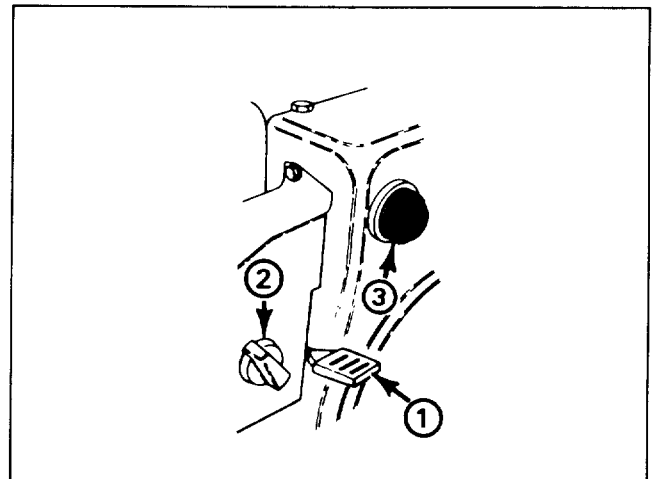

Figure 13
**Throttle** (Fig. 13)—Move throttle upward to increase the engine speed.
**Choke** (Fig. 13)—Rotate choke to ON position to start a cold engine. As engine warms up, rotate choke gradually to OFF.
**Primer** (Fig. 13)—Press primer to pump a small amount of gasoline into engine for improved cold weather starting.
- A. Remove (2) mounting screws securing heater box in place. Grasp choke knob (Fig. 13) and pull it off mounting pin.
4. Move choke to ON choke position (Fig. 13).
6. Cover hole in center of primer with thumb and push primer slowly three times (Fig. 13). **DO NOT PRIME IF THE ENGINE HAS BEEN RUNNING AND IS HOT.**
8. After engine starts, immediately move choke (Fig. 13) to 3/4 position. As engine warms up, move choke to 1/2 position; then to OFF position. If engine falters, return choke to 1/2 position. When engine warms sufficiently, move choke to OFF position.